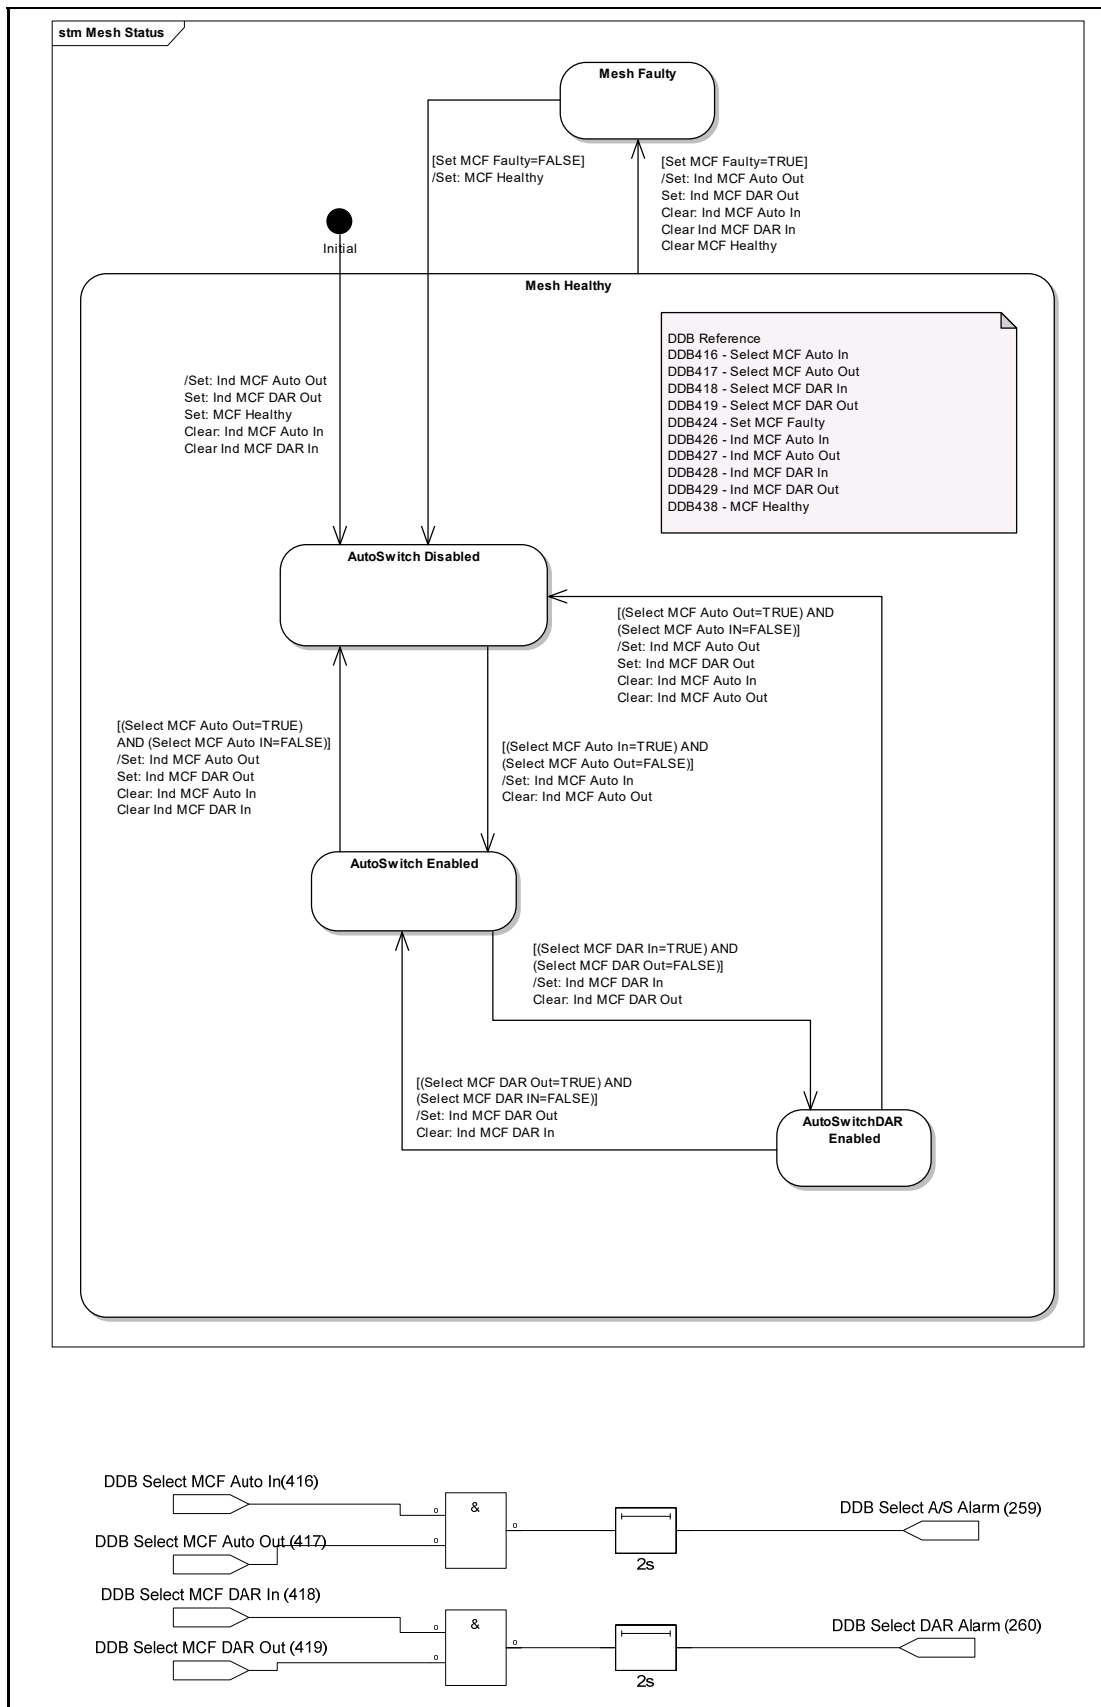

Figure 4: Mesh corner function - mesh status state chart and alarm
- Figure 4: Mesh Status: Manages the In/Out switching of the Mesh Corner Unit.